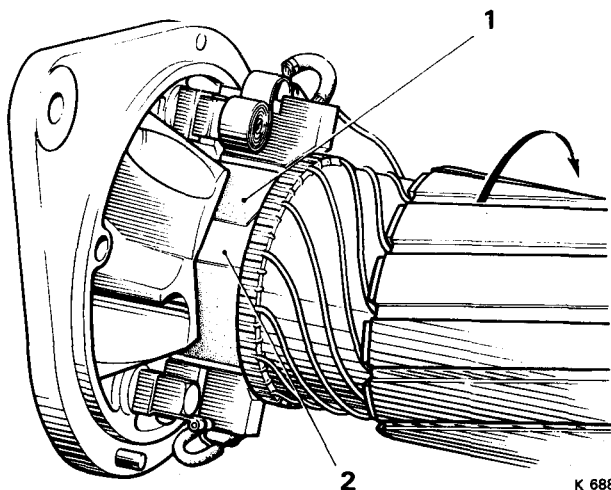

FIG. M43 BEDDING THE BRUSHES
1. To bed-in the brushes, wrap a strip of fine glass paper around the commutator, allowing the two ends to meet. The glass paper should be the same width as the commutator and be positioned with the abrasive side facing outward. Secure the ends of the glass paper to the commutator so that the commutator is completely encircled (see Fig. M43).